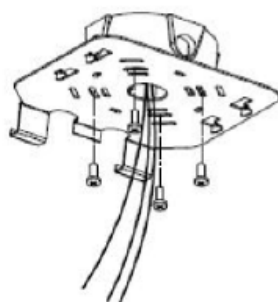

Figure 6
- Feed the incoming power wires from the junction box through the center hole in the mounting plate. Then, attach the mounting plate to the junction box using appropriate fasteners (see Figure 6).